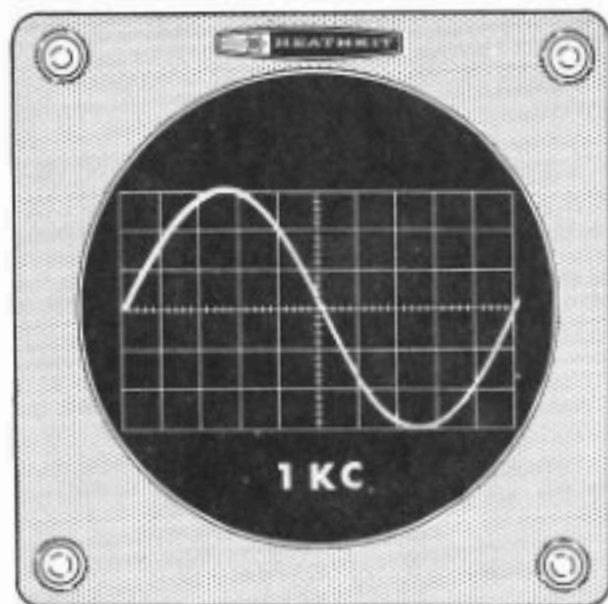

Figure 2-1
- () Adjust the TRIGGER LEVEL control until the starting point is on the center horizontal line of the graticule. See Figure 2-1.